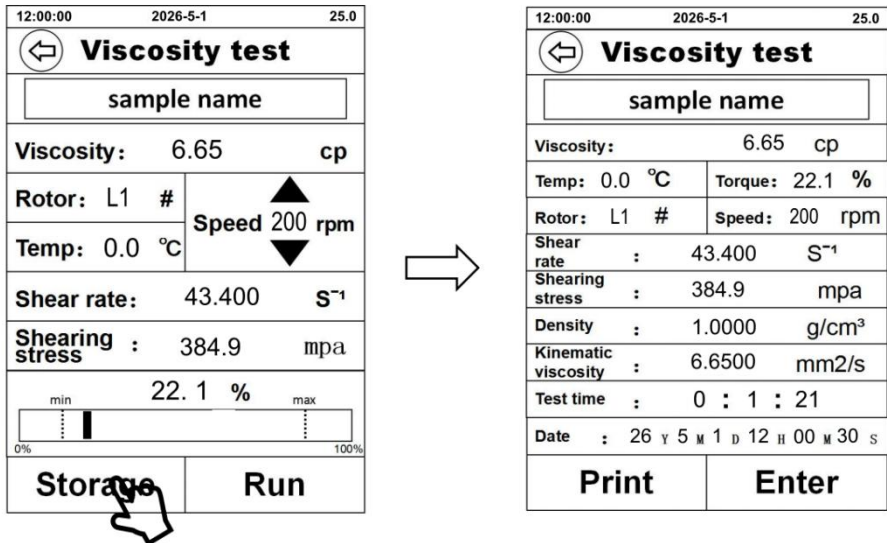

Fig. 11
6) End the test: After finishing, click "Stop" to enter test data interface. Click "Storage" → "Enter" to save to instrument memory; or connect an external printer and click "Print"(Fig.11).